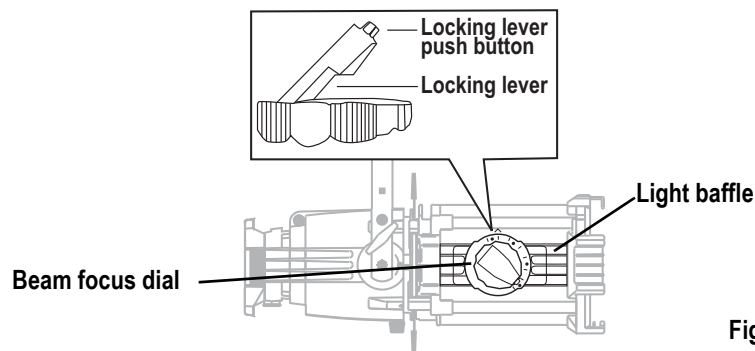

Figure 6
- Step 1: Press the locking lever push button and lift the locking lever to unlock the focus dial as shown in Figure 6.